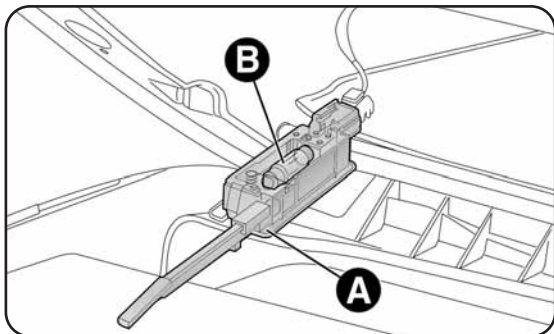

fig. 34
- open the glove compartment, and remove the light A-fig. 34;